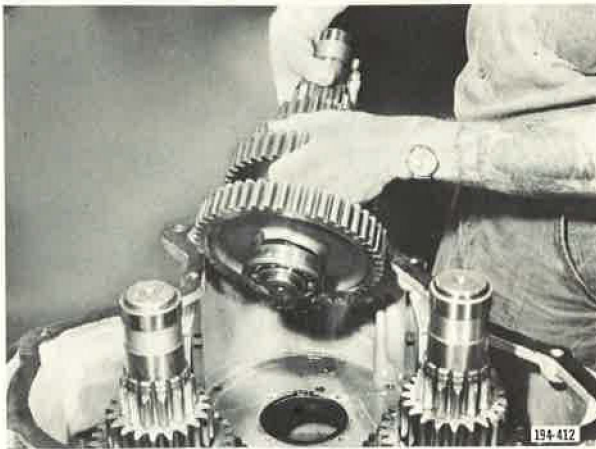

Figure 17. Removing Front Countershaft Assembly
9. Place transmission front case vertically and remove the three countershaft assemblies from case. See Figure 17.